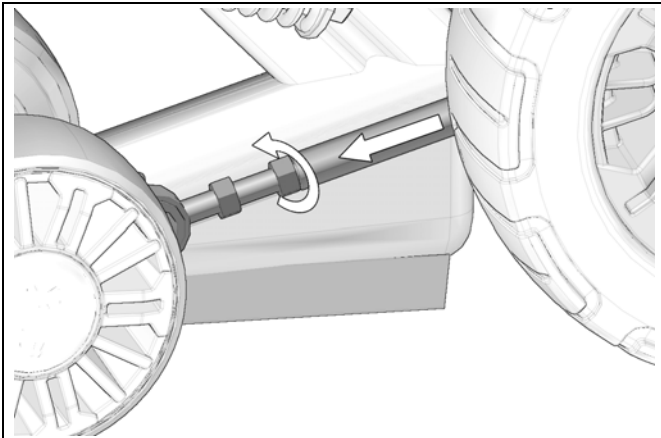

Figure 25
- Set track tensioner to minimum position. See Figure 25.